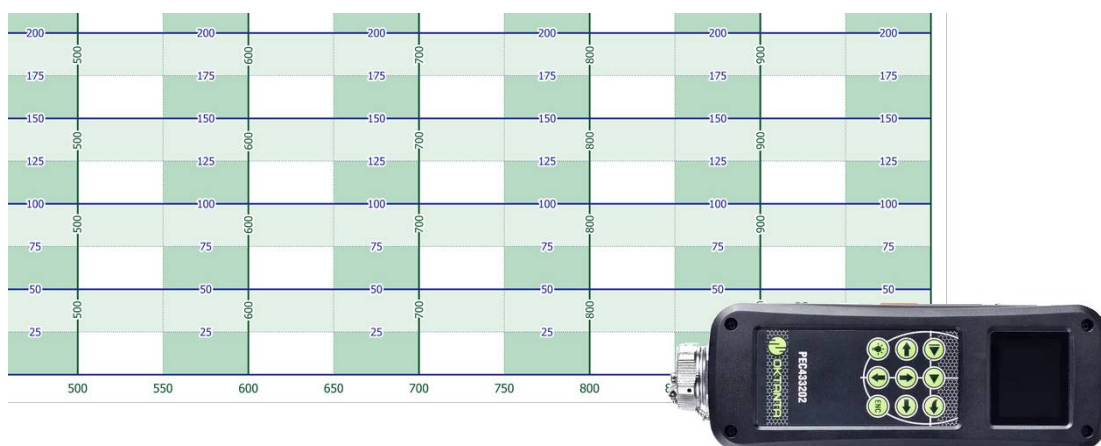

Figure 56. Sensor location at the extreme right point of the scan area.
- Then, repeat operations as described above until the whole length of C-scan is passed. The sensor position in this case is shown in Figure 56.